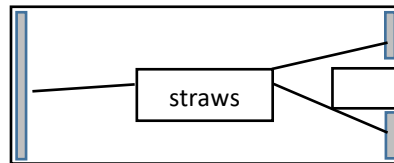

Figure 3 Attaching the straws
Step 3 – Cut 3 sections of straw to fit on the body of the car like in the illustration below. Glue them in place using a glue gun (Figure 3). Make sure the straws are parallel and the axles spin freely.